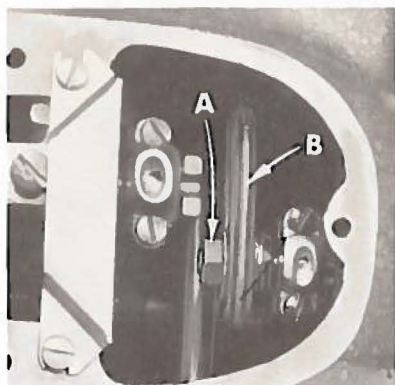

Fig. 9
Synchronizing the upper feed with the lower feed can be accomplished by loosening nut (A, Fig. 9) and moving the ball stud in the upper feed driving shaft segment lever (B). Retighten nut.